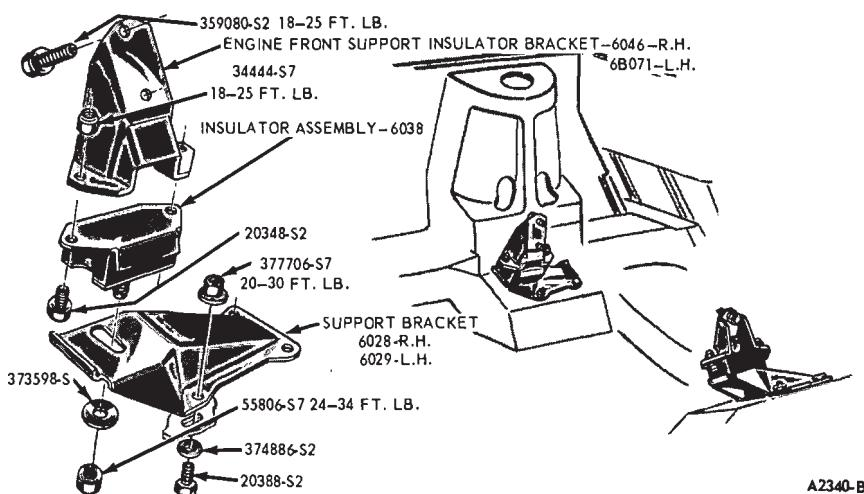

FIG. 5—Fairlane, Falcon and Montego Engine Front Supports (Except 250 CID Engine)
1. Remove the insulator to lower support bracket attaching nut and washer (Fig. 5).